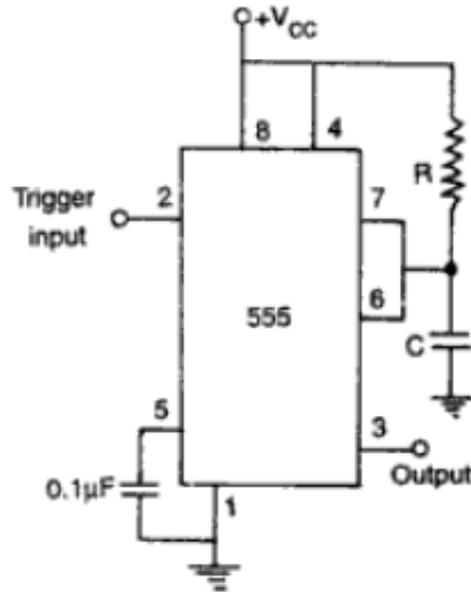
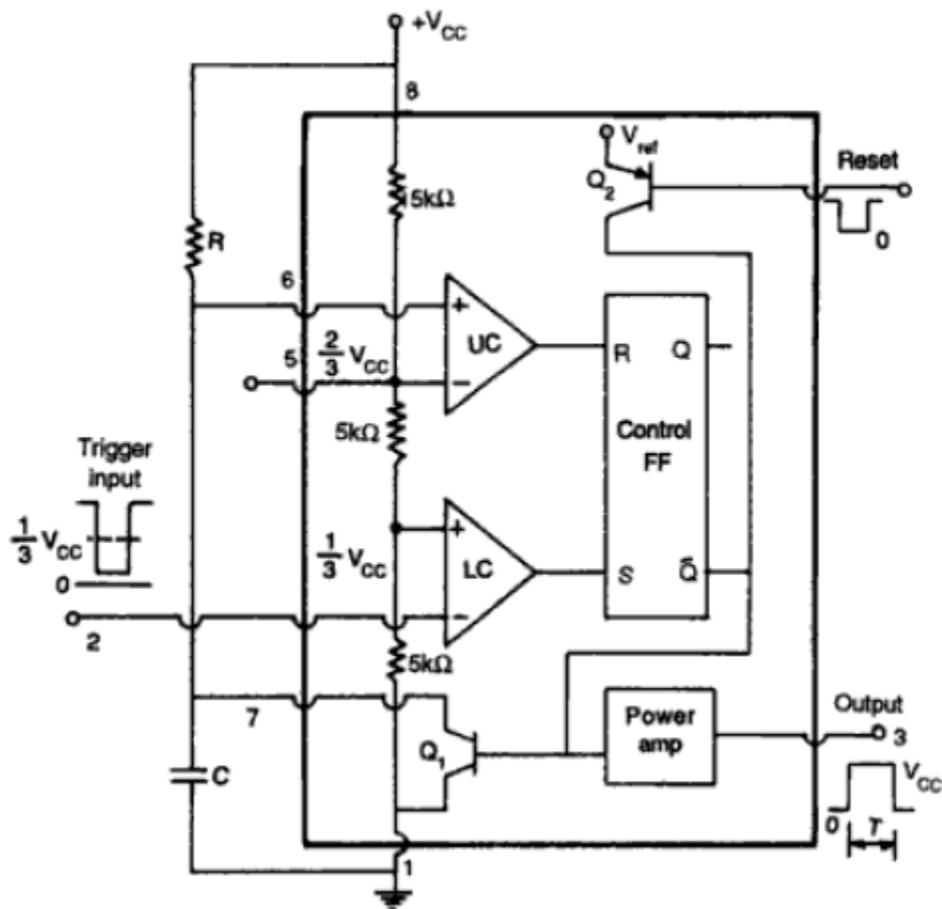

Figure 3: Monostable multivibrator
Figure 4: Timer in monostable operation with functional diagram
2. With neat diagrams, explain the working of IC555 in mono stable mode. (8)
- Figure 3 shows a 555 timer connected for monostable operation and its functional diagram is shown in Fig. 4.
- Sometimes the monostable circuit of Fig.3 mis-triggers on positive pulse edges, even with the control pin bypass capacitor.